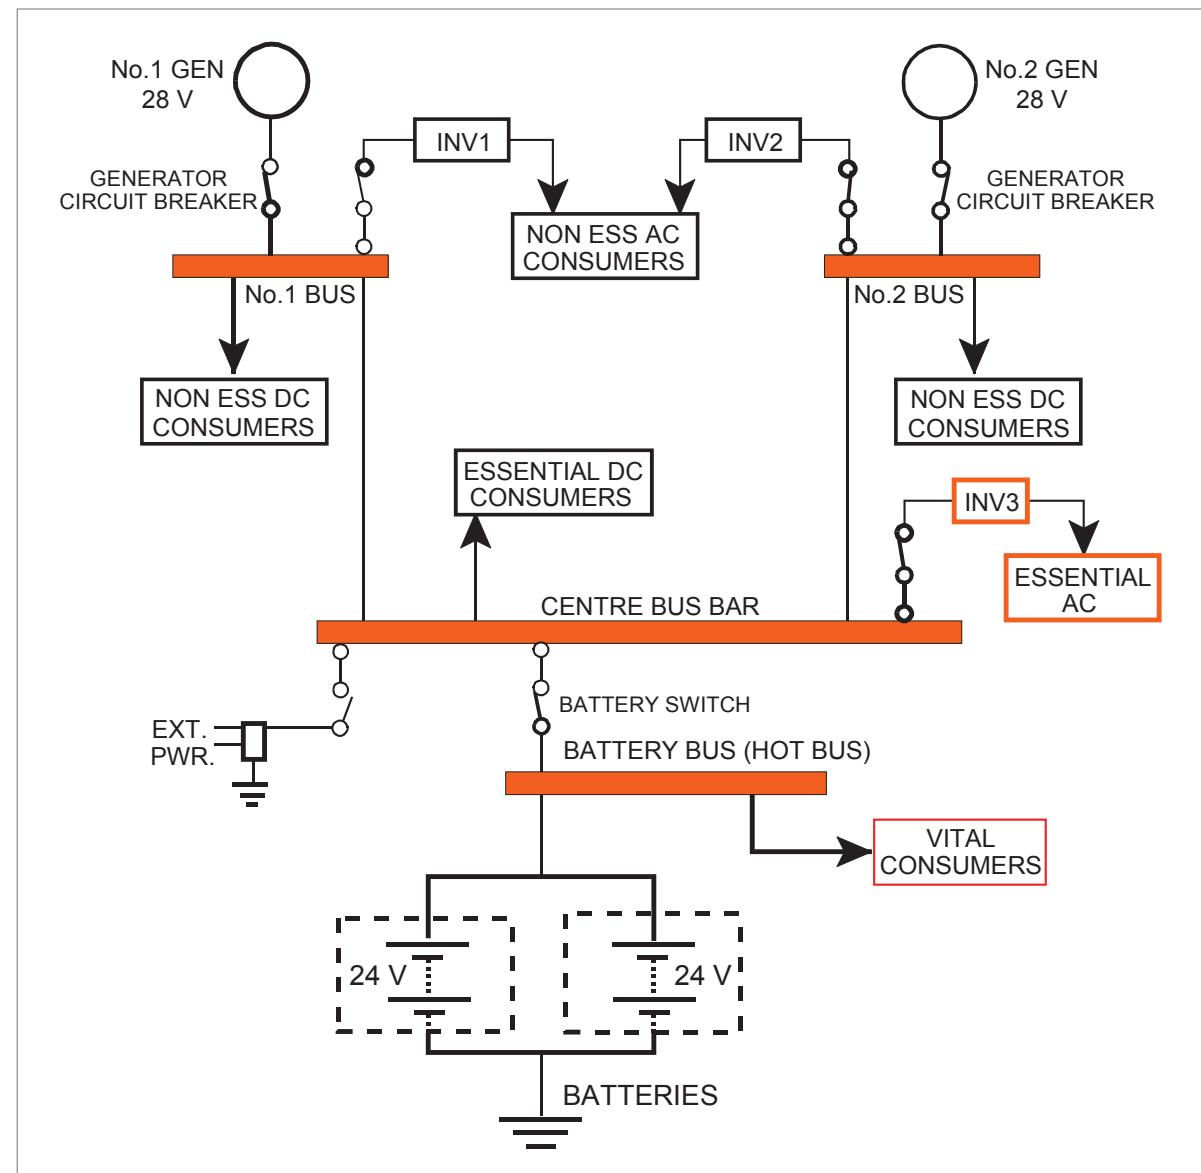

Figure 8.10 Multi DC generator system block diagram
*Figure 8.10* illustrates, in a very simplified form, the principle of dividing categorized consumer services between individual bus bars; this is an example of a parallel bus bar system.
*Figure 8.10* shows that each generator has its own bus bar to which are connected the non-essential consumer services.
In the case of the system represented in *Figure 8.10*, the DC supply to power the inverters is taken from bus bars appropriate to the importance of the AC operated consumers.